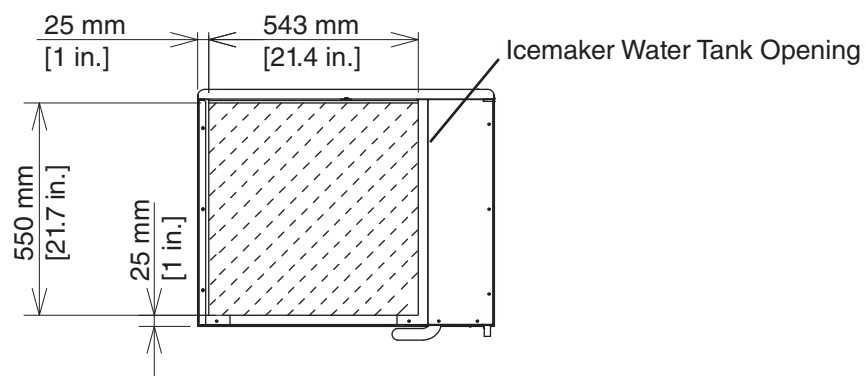

Fig. 5
- 3a) **Dispenser Unit:** Install the dispenser unit adapter kit. Make sure the dispenser unit adapter kit opening and the icemaker water tank opening match. If not, cut the dispenser unit adapter kit to the dimensions needed to match the icemaker water tank opening. **WARNING! The dispenser unit adapter kit opening MUST match the icemaker water tank opening. A smaller opening may result in water leakage which could create a slip hazard or costly water damage. Seal the adapter kit to the dispenser unit with RTV-748 sealant (provided) or equivalent.** See Fig. 5.